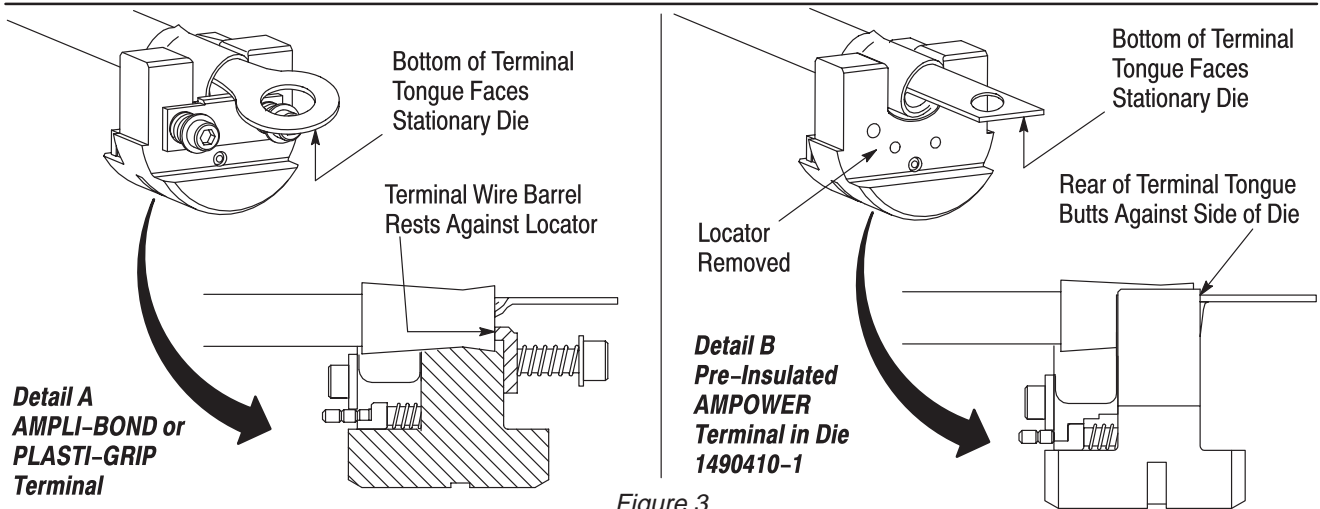

Figure 3
3. Place terminal on dies. See Figure 3, Detail A. Bottom of terminal tongue should face stationary die and terminal wire barrel should rest against spring-loaded locator.
NOTE *When crimping pre-insulated AMPPOWER terminals in die 1490410-1, it will be necessary to remove the locator. Position the terminal in dies as shown in Figure 3, Detail B. Bottom of terminal tongue faces stationary die and rear of terminal tongue butts against the side of the die.*